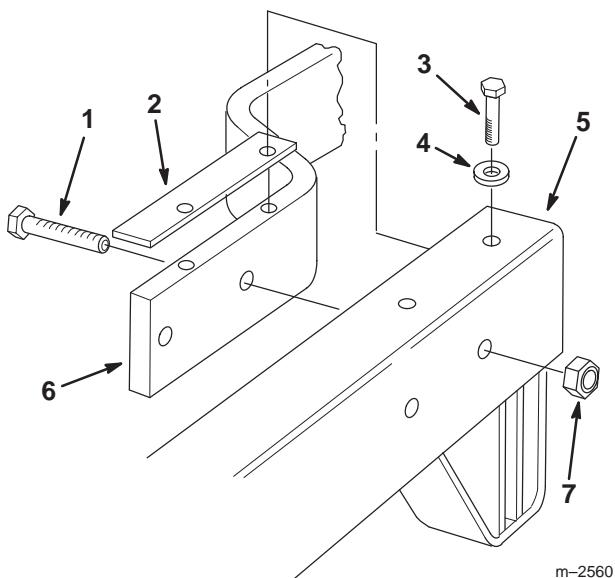

Figure 5
1. Attach the carrier frame to the traction unit frame with the 4 cap screws (3/8 x 1-3/4 in.) and locknuts (3/8 in.). Note that the locknuts must be on the outside of the carrier frame. Leave the locknuts loose to allow movement between the carrier and traction unit frames (Fig. 5).
2. Install the shims between the carrier frame and traction unit frame. Align the holes in the shims with the top holes in the traction unit and carrier frames (Fig. 5).
3. Install the 4 flange bolts (3/8 x 7/8 in.) with flat washers through the carrier frame and shims, and into the threaded holes in the top of the traction unit frame. Torque the flange bolts to 27–33 ft.-lb (37–45 N•m) (Fig. 5).
4. Torque the 4 cap screws (3/8 x 1-3/4 in.) and locknuts (3/8 in.) to 27–33 ft.-lb. (37–45 N•m) (Fig. 5).